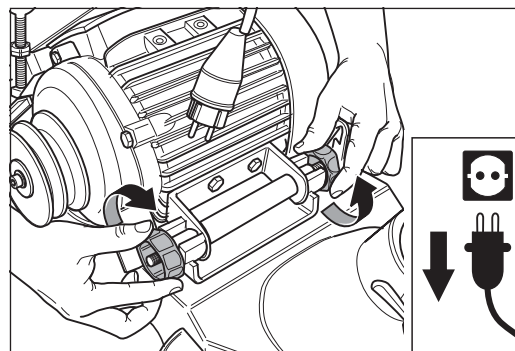

Fig. 114 Tighten the two motor nuts.
- 7 Tighten the two motor nuts (Fig. 114).